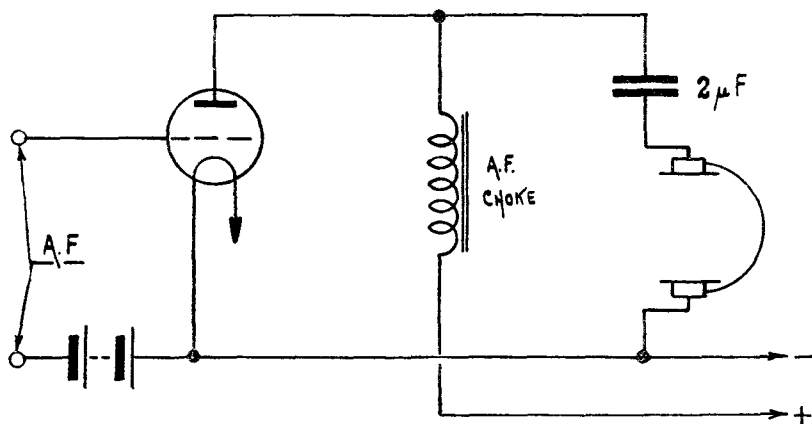

FIG. 43.—Output valve.
8. The Output valve is required to provide current for the operation of the telephones. It will have to have as low an R_a as is consistent with reasonable amplification. The anode load required for maximum power output would be equal to R_a . For maximum distortionless amplification, however, $R = 2 R_a$ is found suitable. "Choke-capacity" output is generally used (fig. 43), since this provides a "filter" circuit isolating the telephones from the D.C., H.T. current, as well as giving anode load impedance to the valve.